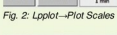
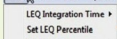

Fig. 3: LEQ→LEQ Integration Time
Fig. 4: LEQ→Noise Dose Criterion
Settings. 1. Select LEQ→LEQ Integration Time from the main menu (1) [Fig. 3], to set the length of the LEQ integrations, which are plotted and saved.
2. Select LEQ→Set LEQ Percentile from the main menu (1) [Fig. 3] to enter a level of percentile for computation and display.
3. Select LEQ→Plot Scales from the main menu (1) [Fig. 3], to select the plot scale as auto for auto scaling, or as manual for manually setting the X and Y minimum and maximum values.
4. Select LEQ→Noise Dose Criterion from the main menu (1) [Fig. 3], to open a dialogue box [Fig. 4] and enter the Exchange rate, Criterion and Threshold values.